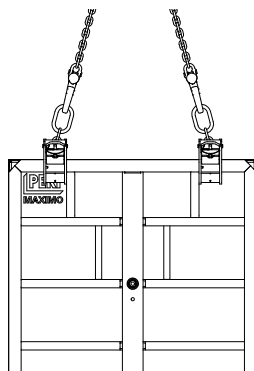

Fig. 4a
- For panel widths > 30 cm: mount two Lifting Hooks so that they are supported on the panel struts in the direction towards one another in order to prevent them from slipping out of position. (Fig. 4a)